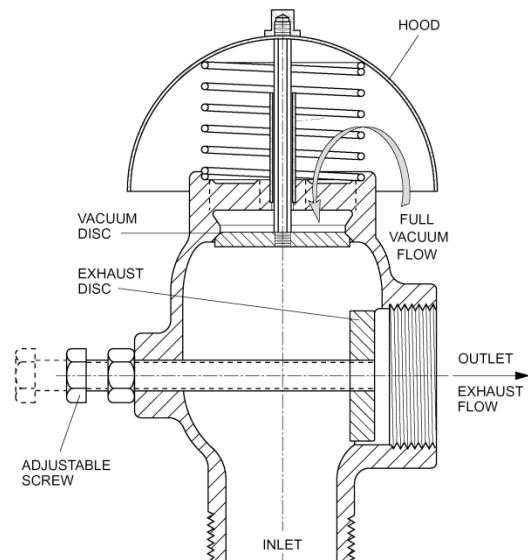

Figure 3. Dual-Port Throttling Device
- Air is not exhausted: Inspect float for free travel, damage or water leakage. Check that exhaust piping is not clogged or isolation valve inadvertently closed. Open throttling device Figure 3. Valve may be too small for application. Identify pump flow rate and call factory to check sizing.